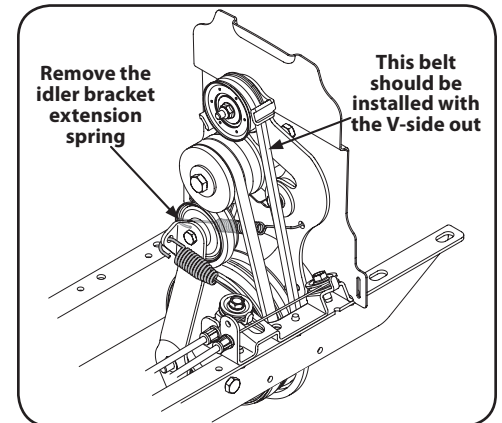

Figure 5-5
4. Remove the idler bracket extension spring, as pointed out in Figure 5-5. It is recommended to use a pair of needle-nosed pliers, and grab the spring by the end that hooks over the frame. Simply grab it and pull it away from the frame, then up wards and carefully relieve the tension of the spring.